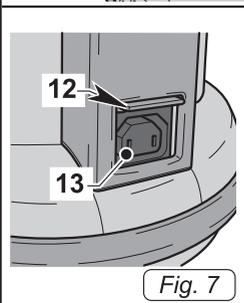

Fig. 7
- Lift the flap (12 Fig. 7) to access the connection (13 Fig. 7).